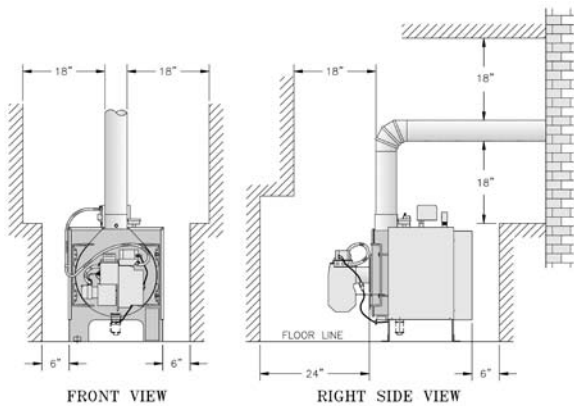

Figure 2: Minimum Installation Clearances To Combustible Materials
- D. For minimum clearances to combustible materials See Figure 2.